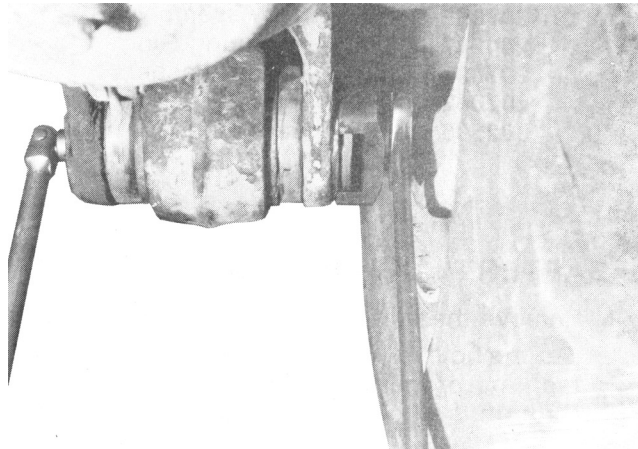

Figure 6
3. **Hold the bolt** and use a 1-1/2" open end or box wrench to **turn the nut**. See Figure 6.